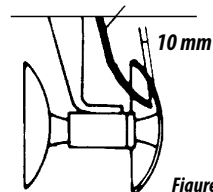

Figure 11
- 05 - Regulate the cleaners in a 10 mm distance between the disc and the cleaner, according to figure 11.